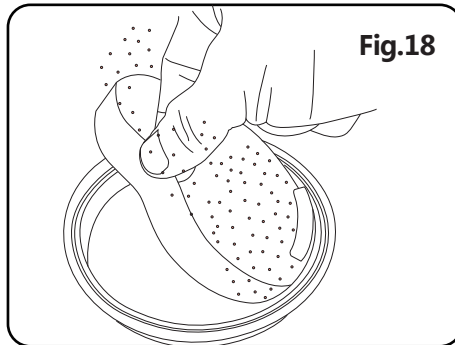

Fig.18
(5) As in fig.18, If you have any hair winding removable cleaning.